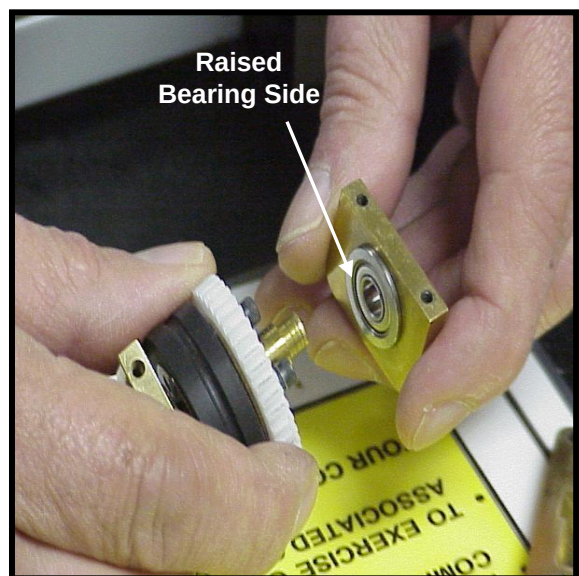

Figure 46
14.3.2.11 Side Plastic Gear-side Bearing Hanger back onto hub shaft with raised Bearing pointing inward toward Gear. See Fig. 46